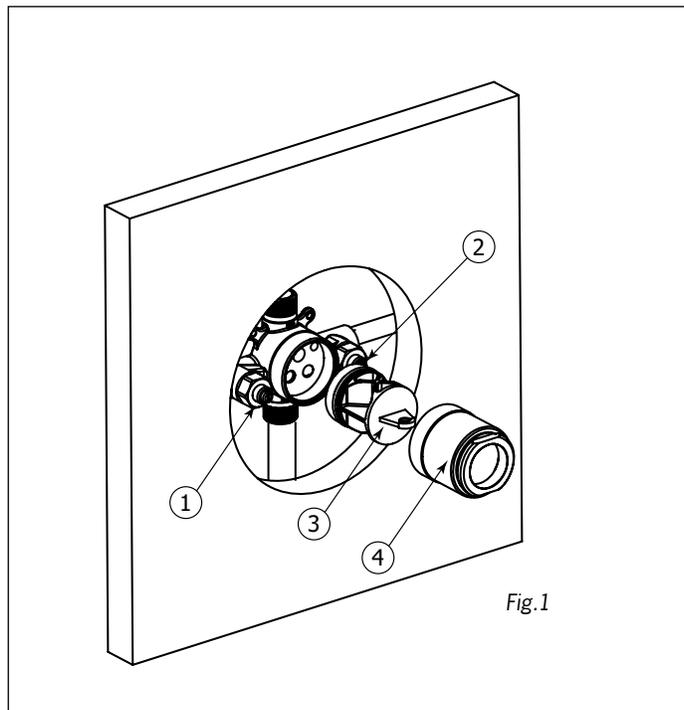

Fig.1
First, verify the 2 check-valves (1) & (2) are shut off. Afterwards, unscrew the cartridge holder (4) and remove the protective plug (3) (see Fig.1) .
Dévisser ensuite le manchon de valve (4) et retirer le capuchon protecteur (3) (Voir Fig.1).